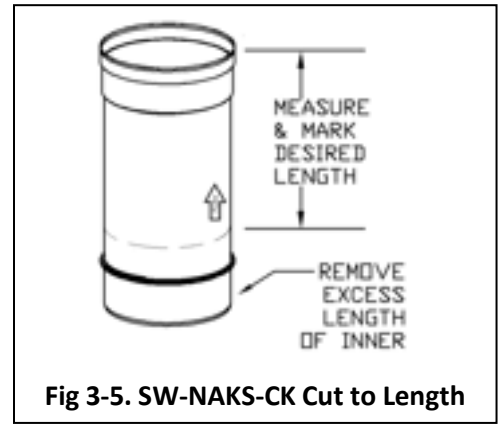

Fig 3-5. SW-NAKS-CK Cut to Length
3. Measuring DOWN from the OUTLET end of the pipe, mark a line around the perimeter of the pipe at the desired location for the cut (See Fig 3-5).
3. On the inner pipe, Measure DOWN from the OUTLET end of the pipe, mark a line around the perimeter of the pipe at the desired location for the cut (See Fig 3-5).